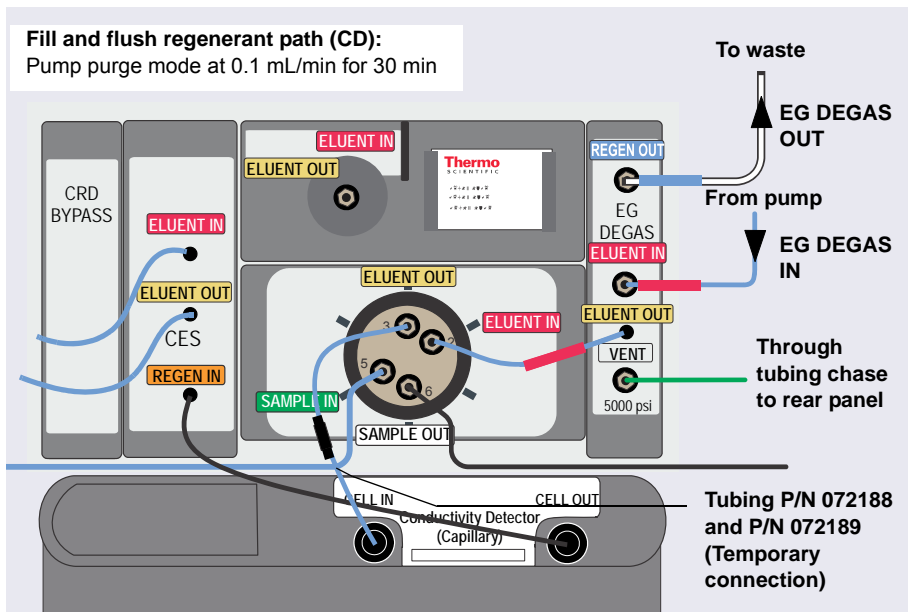

Figure 4-3. Flow Schematic for Filling and Flushing the Regenerant path in a Capillary CD System
- Use the two tubing assemblies to connect the injection valve **ELUENT OUT** port to the cell **IN** port (see Figure 4-3).